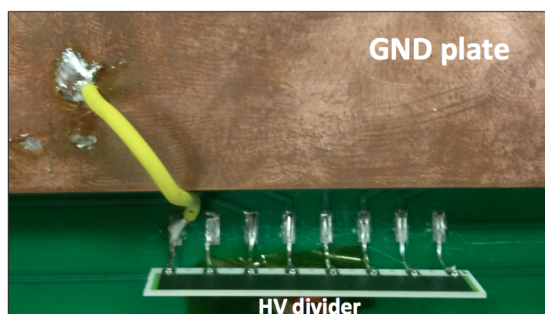

Figure 5.1: Close view of the ground wire connecting the divider and the grounding plate.
2. Fix the grounding plate onto the readout board and solder a ground cable from the ground pin of the divider to the top of the grounding plate (see Fig. 5.1). This cable should not be in contact or too close to the GEM 3 bottom pad, under the penalty of triggering discharges.